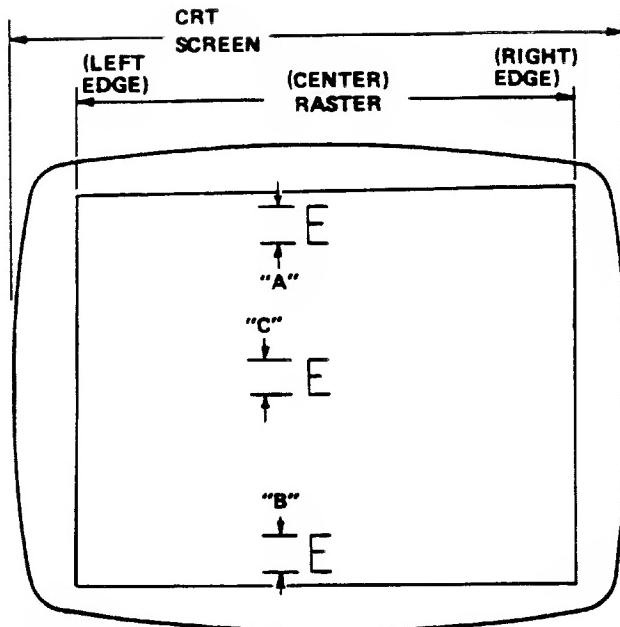

Figure 1. Partial CRT Display of Characters for Vertical Linearity Adjustment
- Step 3. (Refer to Figure 1.) Adjust the Vert. Linearity control, R211, until extreme top and bottom characters (designated "A" and "B") are equal in height to the center character (designated "C").